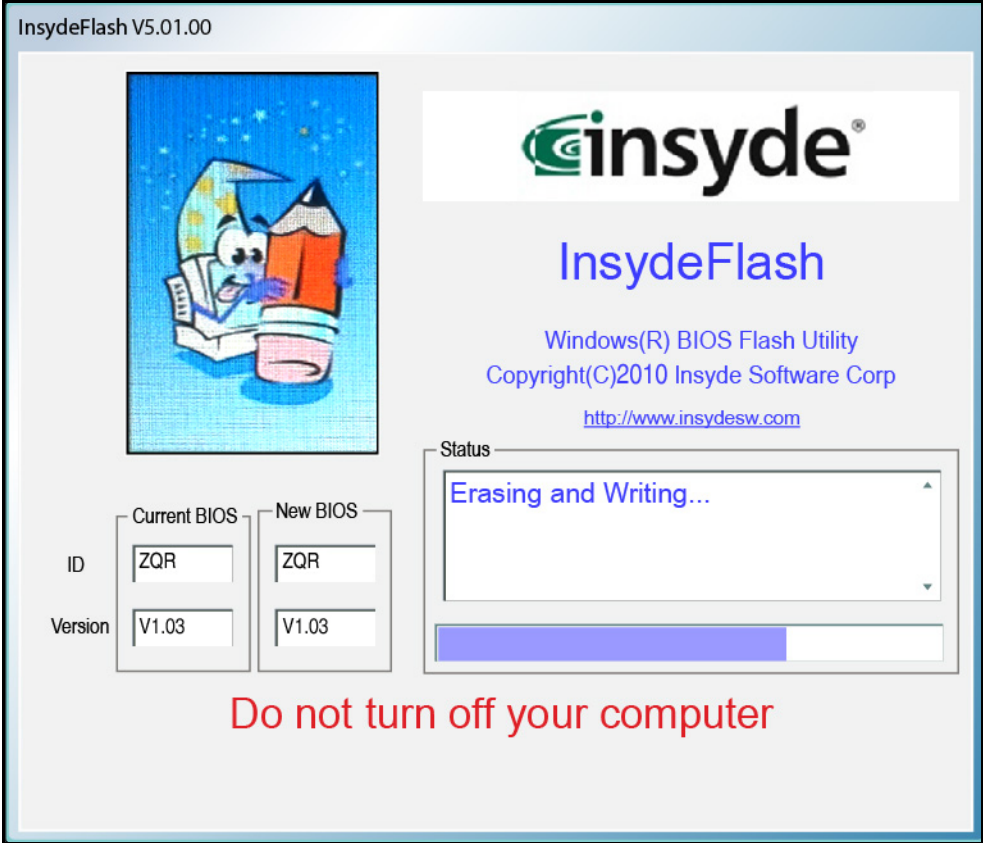

Figure 2-16. InsydeFlash
- 2. Click **OK** to begin update. A progress screen is shown. (Figure 2-16)